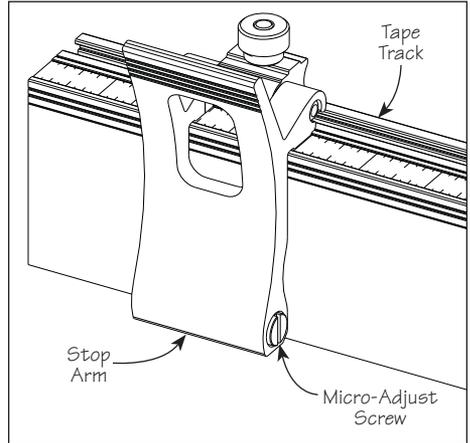

Figure 1: Large flip stop components.
3. Install the large fence flip stop on the 1/4-20 tape T-slot track (as shown in **Figure 1**), slide it along the track until it registers against the other end of the board and tighten the knob to lock it into position. *Note: The micro-adjust screw should be proud of the stop arm by approximately 1/8" to allow for final adjustment in either direction.*